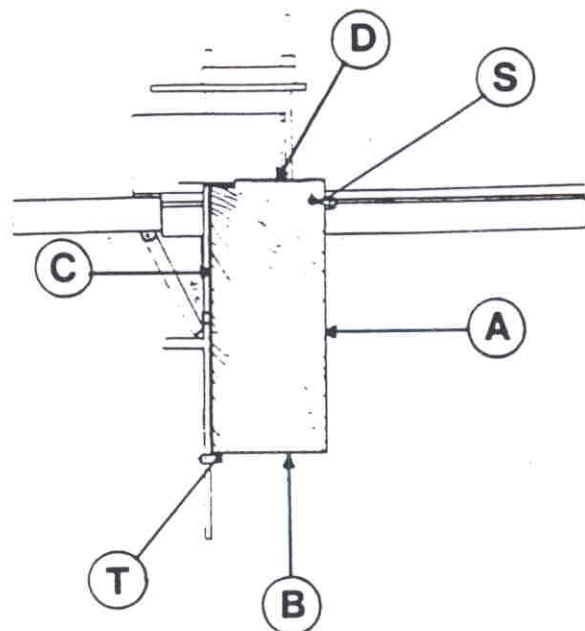

Fig.44
- Turn panel 90° again: rest side (C fig. 44) against aluminium fence and side (B) against stop (T) set according to cutting measure, then carry out cut (D).